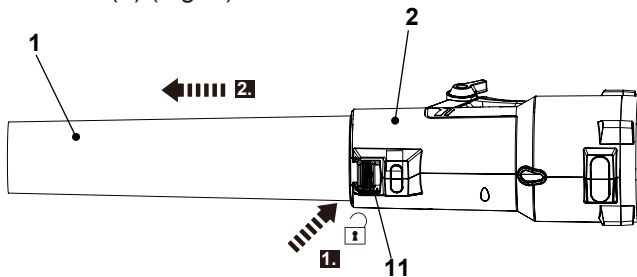

Fig. 8
3. Remove the air tube (1) from the main unit if necessary. Press down the clamp lever (11) and hold it in position, then pull out the air tube (1) from the air outlet (2) (Fig. 8).